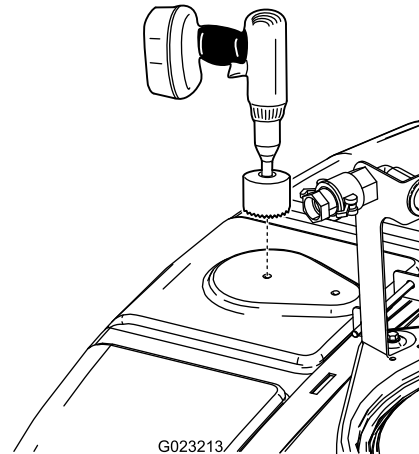

Figure 15
2. Locate the forward location on the top of the tank as shown in Figure 15.
3. Use a 9 cm (3-5/8 inch) hole saw to drill a hole at the drill mark (Figure 15).